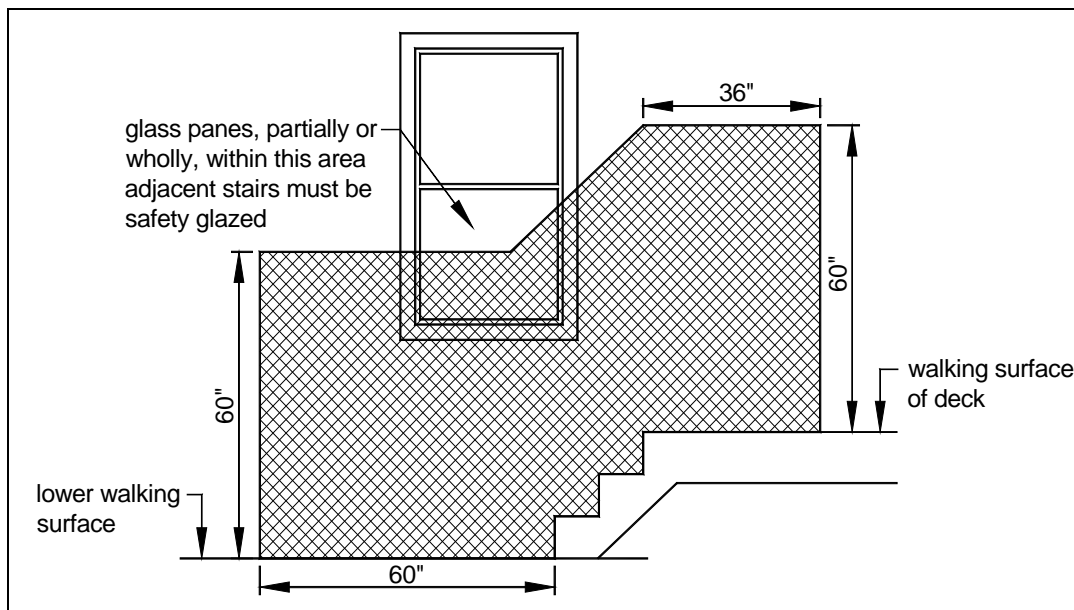

FIGURE 43: SAFETY GLAZING AREA AT STAIRS
- Adjacent stairway: individual panes partially or wholly located in the area shown in FIGURE 43.